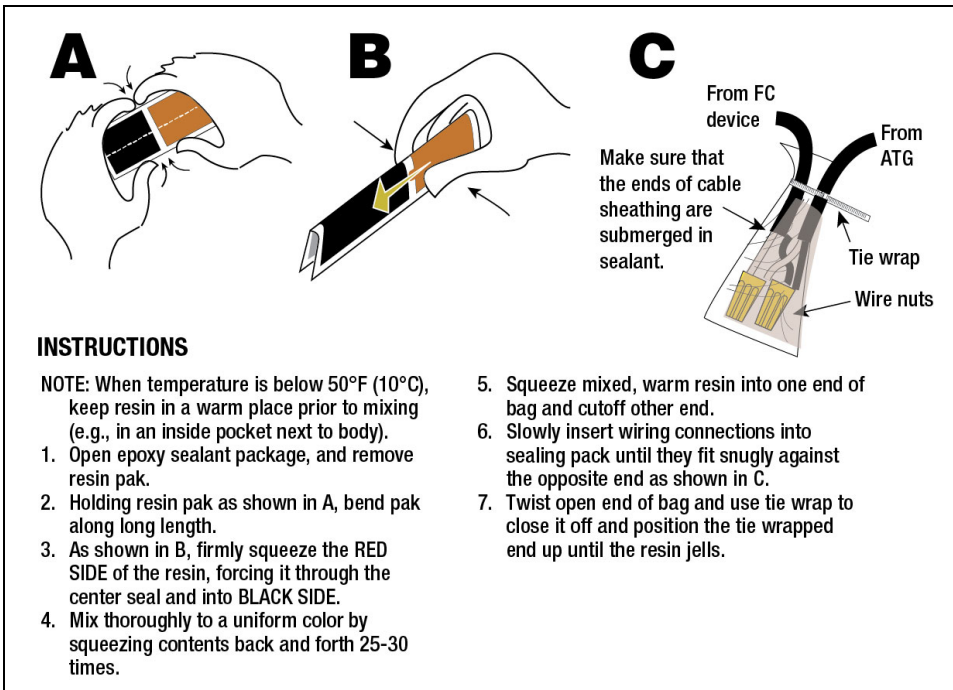

Figure 2.
9. Connect the new Pressure Sensor cable wires to the ATG cable wires and seal wire connections in the epoxy pack as shown in Figure 2.